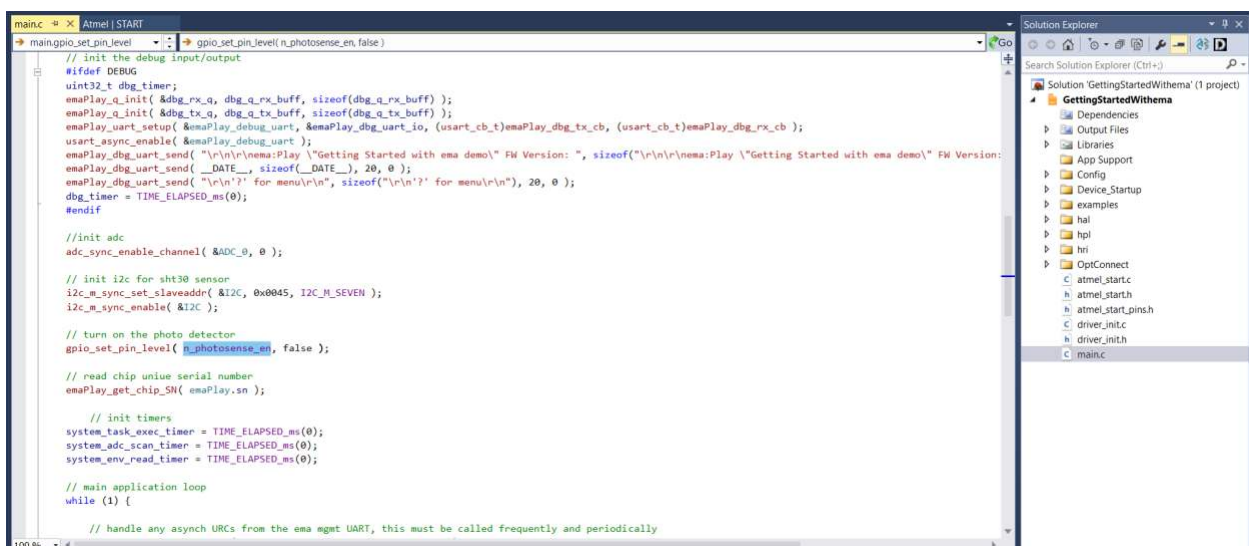

Figure 11
7. **Investigate the main.c source file:** In the “Solution Explorer” under the folder “GettingStartedWithema”, locate the main.c file and open it. It can be observed that the “User Label” references are used in the API calls in the int main(void) function. This is a simple demonstration of the correlation between the *Atmel | Start* tool and the source code references. Reference *Figure 11*.